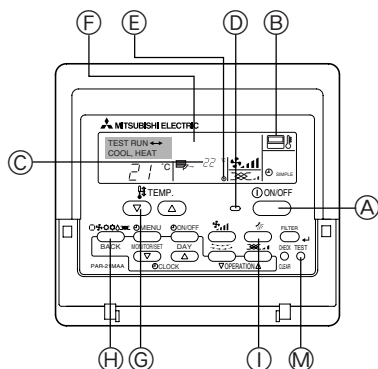

Fig. 7-1
7.2.1. Using wired remote controller (Fig. 7-1)
- ① Turn on the power at least 12 hours before the test run.
- ② Press the [TEST] button twice. ➡ "TEST RUN" liquid crystal display
- ③ Press the [Mode selection] button. ➡ Make sure that wind is blown out.
- ④ Press the [Mode selection] button and switch to the cooling (or heating) mode. ➡ Make sure that cold (or warm) wind is blown out.
- ⑤ Press the [Fan speed] button. ➡ Make sure that the wind speed is switched.
- ⑥ Check operation of the outdoor unit fan.
- ⑦ Release test run by pressing the [ON/OFF] button. ➡ Stop
- ⑧ Register a telephone number.